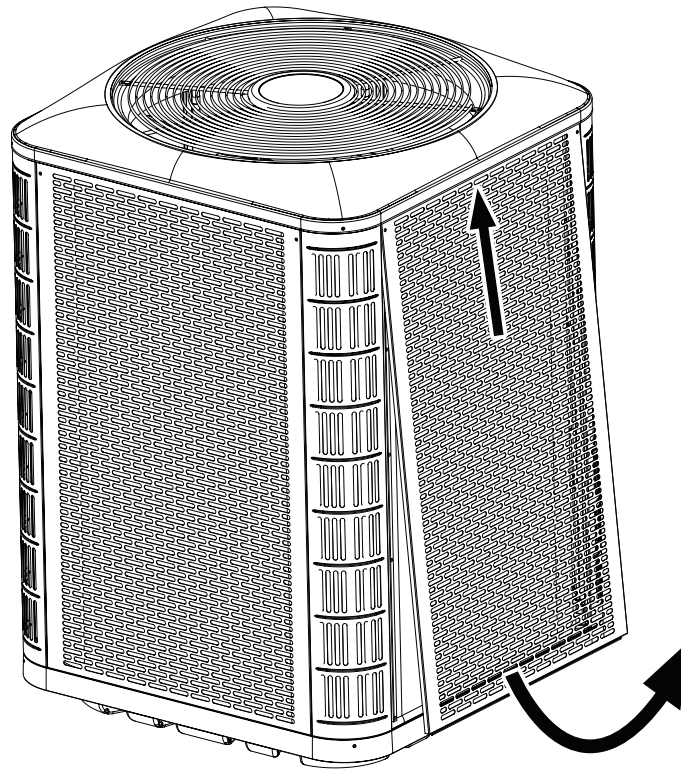
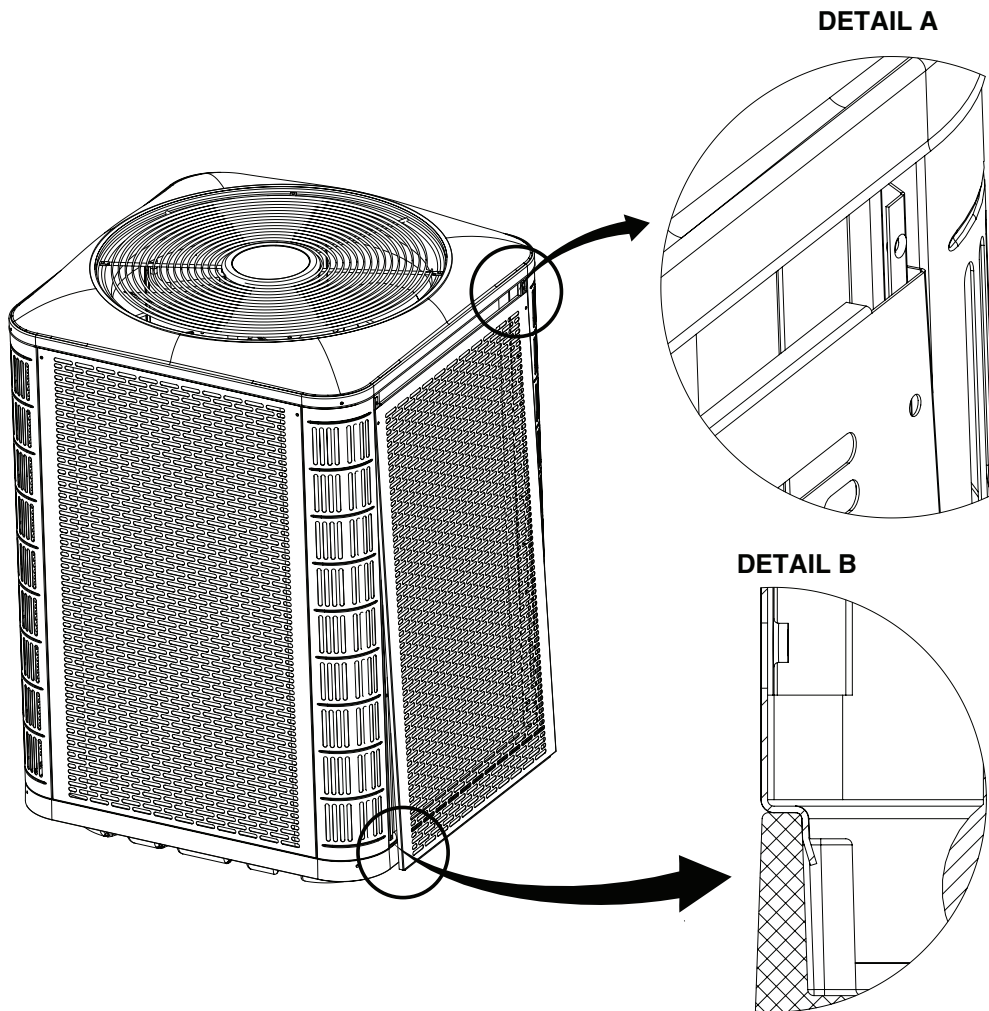

Figure 2. Panel Removal
Figure 3. Panel Installation
- To access the internal components of the unit, refer to Figure 2 \(page 11\) for panel removal and Figure 3 \(page 11\) for panel installation.
2. Slide the panel up towards the top pan in order to clear the bottom flange from the base pan. See Figure 2 \(page 11\).
1. Insert the top corners of side panel flanges into the corner post channels as shown in Detail A in Figure 3 \(page 11\).